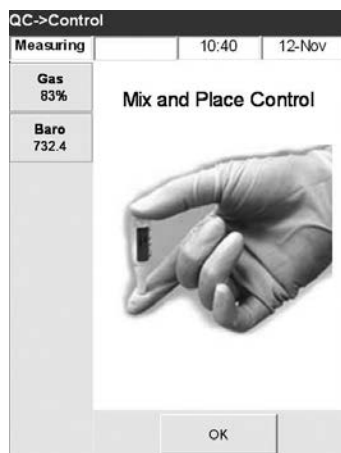

Fig. 4-22 Place Control
12. Calibration is complete and it is time to place a sample (Fig. 4-22).